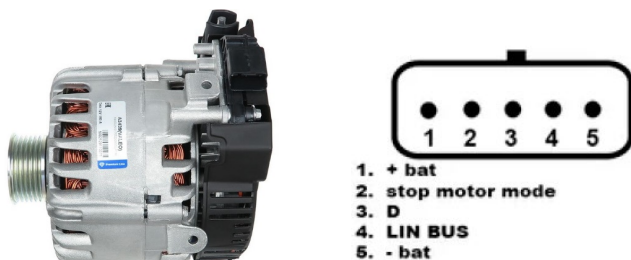

Figure 25. Valeo IST60C017: marking of terminal pins
3. Connect the tester to the alternator terminals using the MS-33501 cable according to the cable color coding (see Section 1). Alternators of the **I-StARS** type are connected using the **MS-33502** cable. A connection example is described below (see Fig. 25 and Tables 5).
As an example, Fig. 25 and Table 5 show the connection diagram for **I-StARS** alternators.